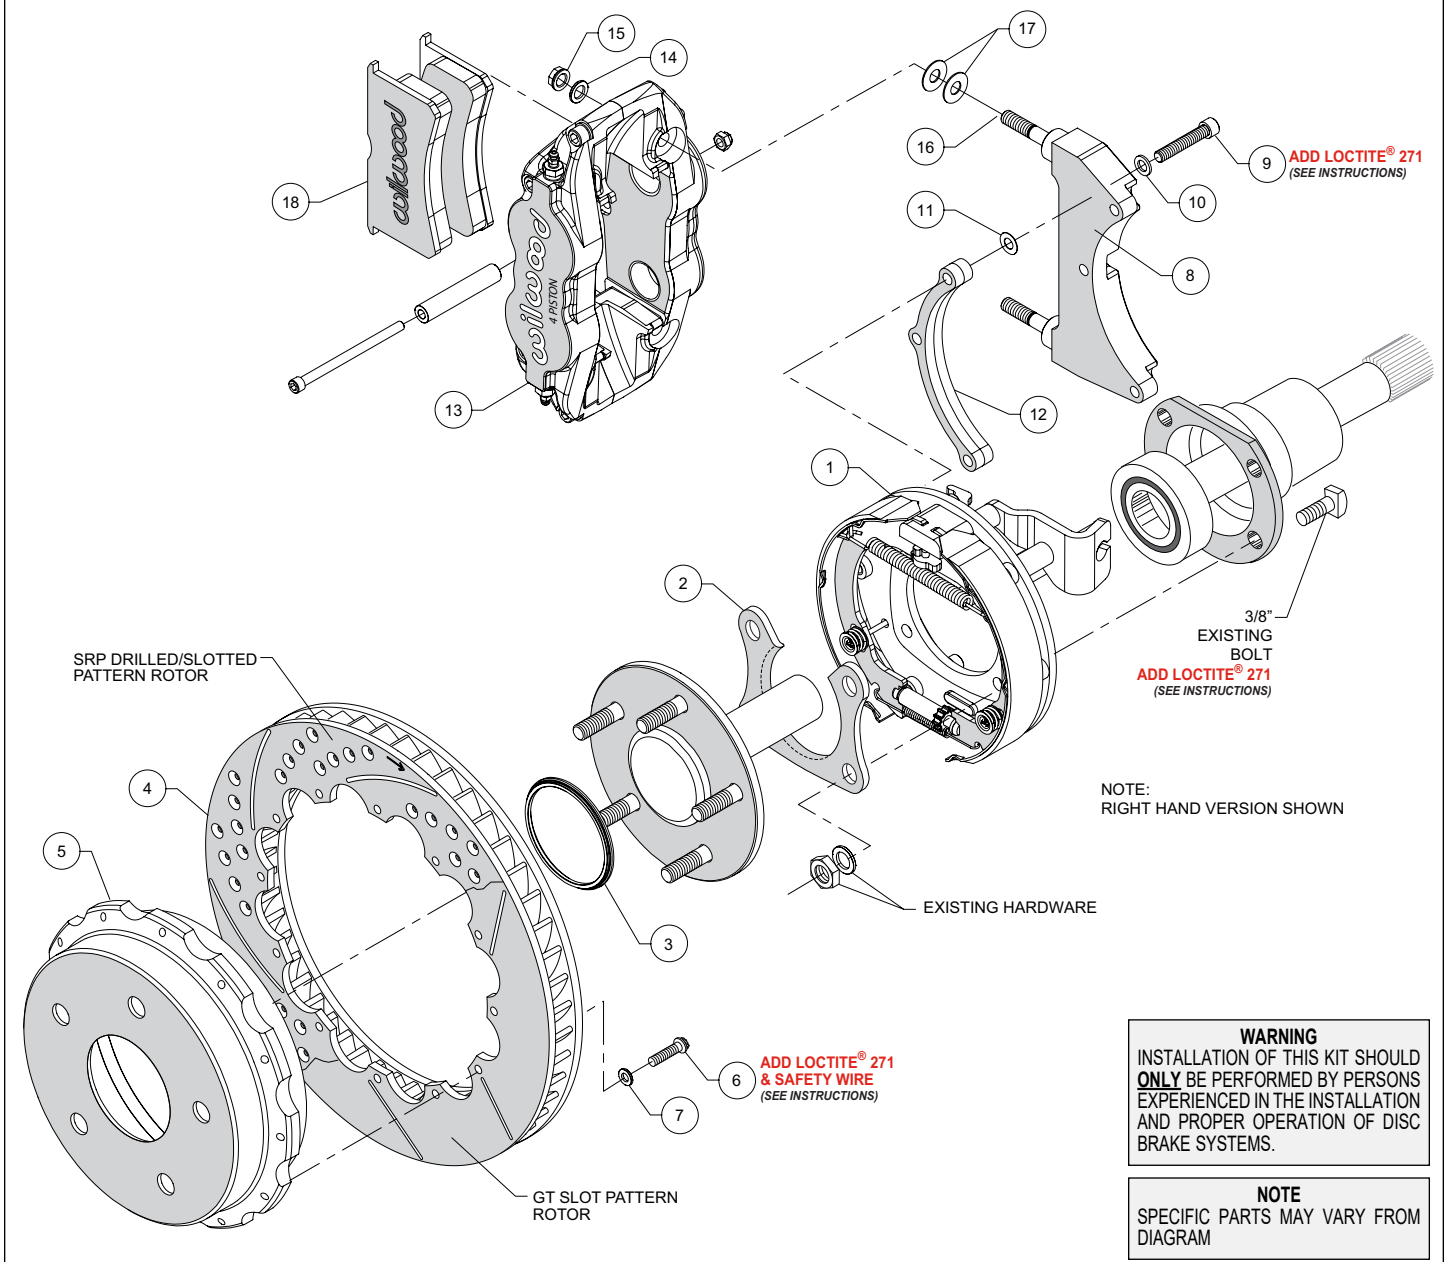
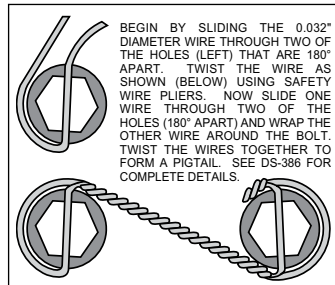

Figure 1. Typical Installation Configuration
Figure 5. Safety Wire Diagram
**Assembly Instructions** (numbers in parenthesis refer to the parts list, and Figure 1 on the preceding pages): **CAUTION:** All mounting bolts must fully engage clinch nuts. Be sure to check that all bolts are either flush or protruding through flanged side of clinch nut after shimming.
- Orient the bracket assembly (1) as shown in Figure 1 and Photo 1 and slide it onto the axle. Insert the axle and bracket into the axle housing. Ensure that the bracket assembly backing plate fits flush against the axle housing flange.
- Install the bearing retainer (2) with the opening pointing upward and the lip facing inward (toward the bearing), as shown in Figures 1 and 4, and Photo 2. Secure retainer and bracket assembly to the axle housing flange using the Original Equipment Manufacturer (OEM) bolts, washers, and nuts, Figure 1. Apply red *Loctite*® 271 to the OEM bolt threads and torque to OEM specifications.
•**NOTE:** Please reference the caution statement at the beginning of the assembly instructions. The caliper mounting bracket (8) should initially be installed with clean, dry threads on the mounting bolts. Orient the bracket as shown in Figure 1 and Photo 3, and install using bolts (9) and flat washers (10). Initially place one .015" shim washer (11) on each bolt between the bracket (8) and spacer (12), Figure 1. Temporarily tighten the mounting bolts. **NOTE:** End of bolt should not exceed inside face of insert. The bracket must tighten squarely against the back side of the bracket kit assembly (1). Inspect for interference from casting irregularities, machining ridges, burrs, etc. Later, after the caliper alignment has been checked, the mount bolts will be secured using red *Loctite*®.
•Orient the rotor (4) and the hat (5) as shown in Figure 1 and Photo 3. Attach rotor to hat using bolts (6) and washers (7). Apply red *Loctite*® 271 to the bolt threads and torque to 140 **in-lbs** using a criss-cross pattern. For an added measure of security, the bolts may be safety wired using standard 0.032 inch diameter stainless steel safety wire as shown in Figure 5. Please refer to Wilwood's data sheet DS-386 (available at [www.wilwood.com/Pdf/DataSheets/ds386.pdf](http://www.wilwood.com/Pdf/DataSheets/ds386.pdf)) for complete safety wire installation instructions.
•Slide the rotor registration adapter (3) onto the axle register on the axle flange with the smaller O.D. facing toward the rotor/hat (4/5), Photo 5. Align the hole pattern in the hat with the stud pattern on the axle flange and slide into place, Figure 1 and Photo 6. **NOTE:** The rotor/hat must fit flush against the axle flange or excessive rotor run out may result. Install three lug nuts (finger tight) to keep the rotor/hat assembly in place while continuing with the installation. **NOTE:** Some OEM and after market axles come with stud sizes larger than 0.50" diameter. Verify stud size and have a qualified machine shop drill the bolt circle of the hat/rotor to the correct stud size, if necessary.
•Initially place two .035" thick shims (17) on each stud as shown in Figure 1 and Photo 7. Mount the caliper (13) onto the bracket (8) using lock nuts (15) and washers (14), Figure 1. Temporarily tighten the lock nuts and view the rotor through the top opening of the caliper. The rotor should be centered in the caliper, Photo 8. If not, adjust by adding or subtracting shims (11) between the bracket (8) and the spacer (12). Always use the same amount of shims on each of the three mounting bolts. Once the caliper alignment is correct, remove the bracket mounting bolts (9) one at a time, apply red *Loctite*® 271 to the threads, and torque to 180 **in-lb**.